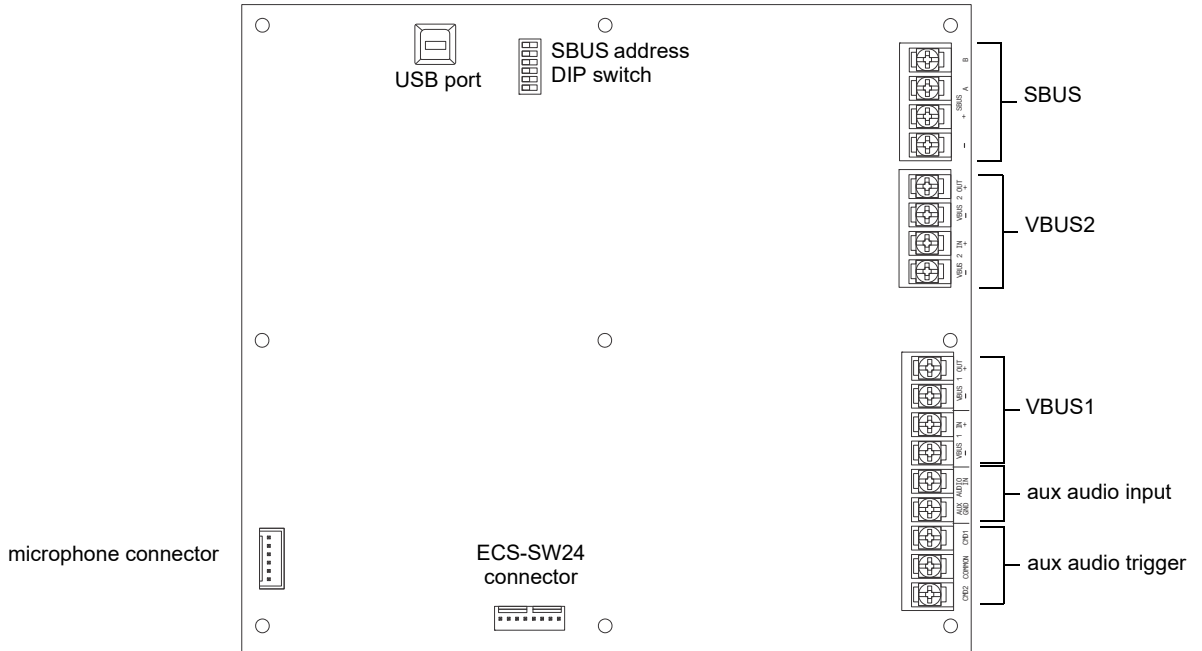

Figure 4.1 Back View of ECS-VCM
5. Connect microphone to Connector P2 on ECS-VCM Keypad. Refer to Figure 4.1 for location.